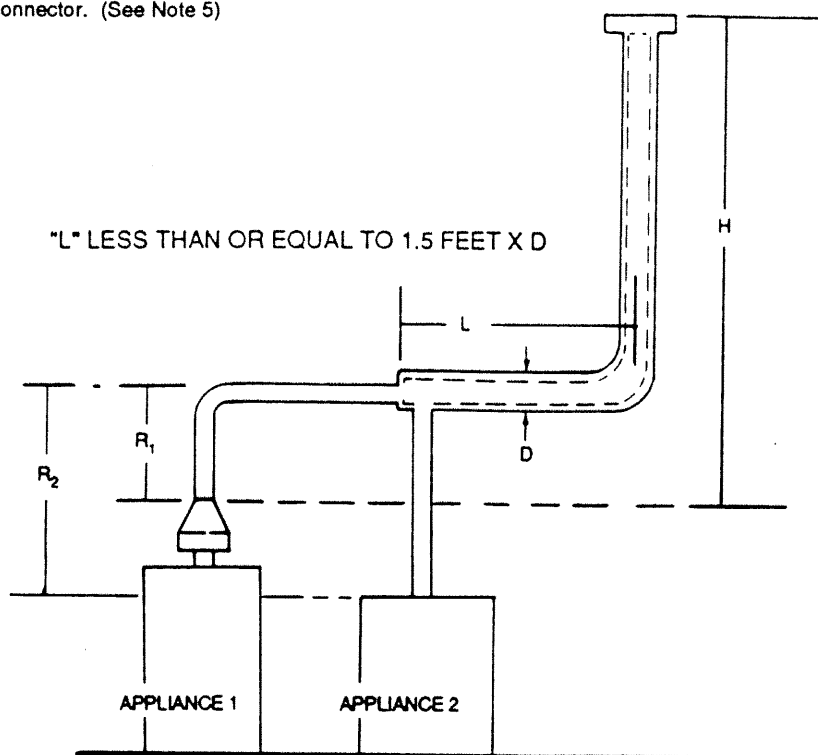

FIGURE 13
5. If vent connectors are combined prior to entering the common vent, the maximum common vent capacity listed in the common venting tables must be reduced by 10% ( $0.90 \times$  maximum common vent capacity). See Figure 13. The length of the common vent connector offset (Lo) should not exceed 18 inches (one and one half feet) for each inch of common vent connector diameter.